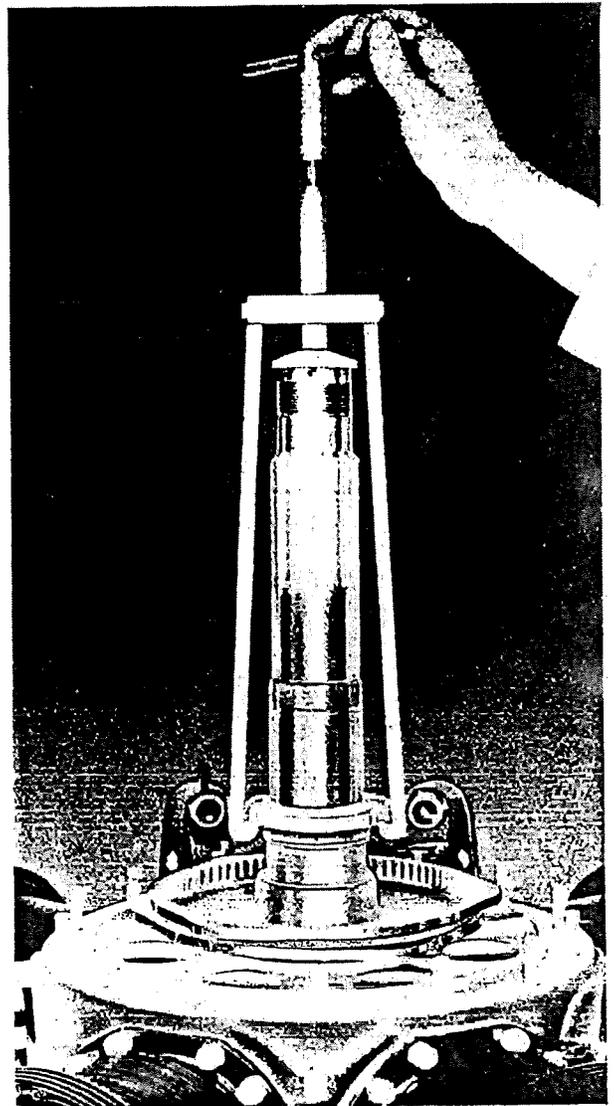

Figure 11 - Removing Timing Gear
(7) Remove the timing gear with the Puller (Tool No. T-6000). Refer to Figure 11.
(8) Remove timing gear spacer, cam assembly and cam bearing.
(9) Screw a No.10-32 Screw into the tapped hole in the timing gear key and remove key.